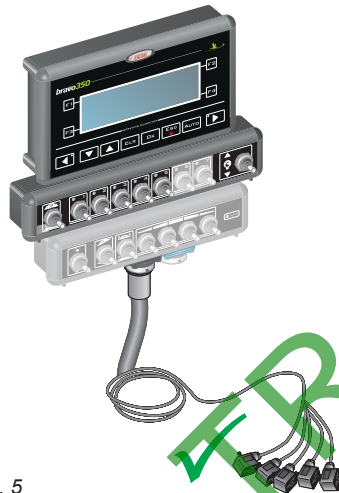

Fig. 5
- the cable branches must **ALWAYS** be facing down (Fig. 5).